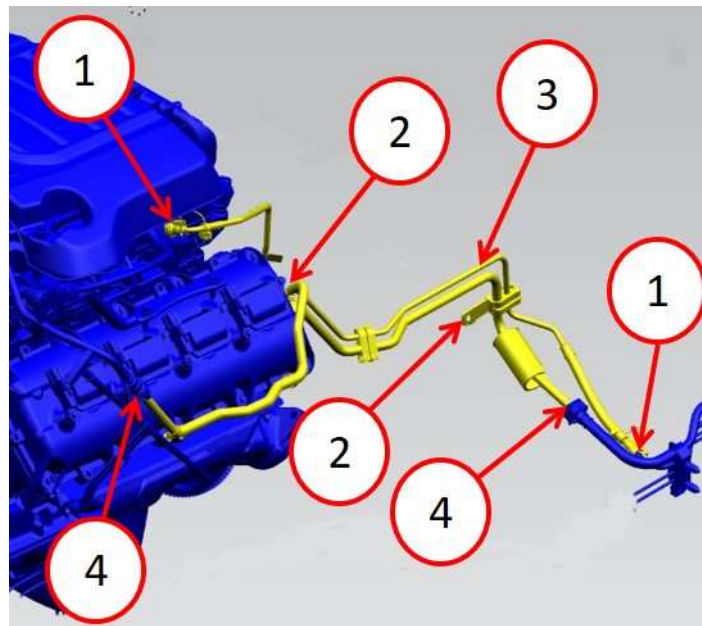

Fig. 1
4. Remove the three fuel bundle push pin fasteners from the fuel line bundle brackets (Fig. 1) .
10. Disconnect the fuel line bundle connections on the engine and fuel line (Fig. 1) .
11. Disconnect the EVAP line bundle connections on the engine and EVAP line (Fig. 1) .
12. Replace the fuel line bundle (Fig. 1) .
13. Connect the EVAP line bundle connections on the engine and EVAP line (Fig. 1) .
14. Connect the fuel line bundle connections on the engine and fuel line (Fig. 1) .